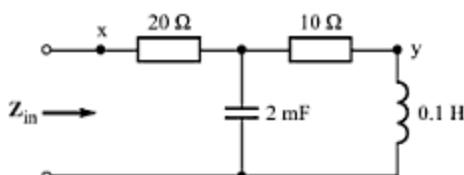

Fig. C-47
- C-44.** If $\omega = 100$ rad/s in the circuit shown in Fig. C-47, find (a) Z_{in} , and (b) Z_{in} if a short circuit is connected between x and y .